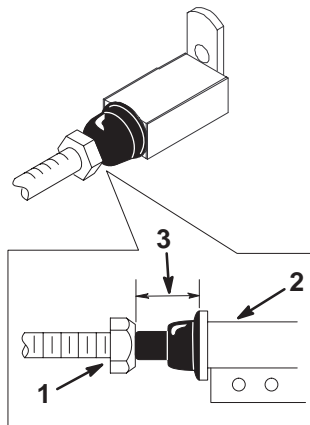

Figure 3
2. Check and/or set the distance between the head of the start switch bolt and the body of the start switch to 5/8 inch (1.6 cm) (Fig. 3).